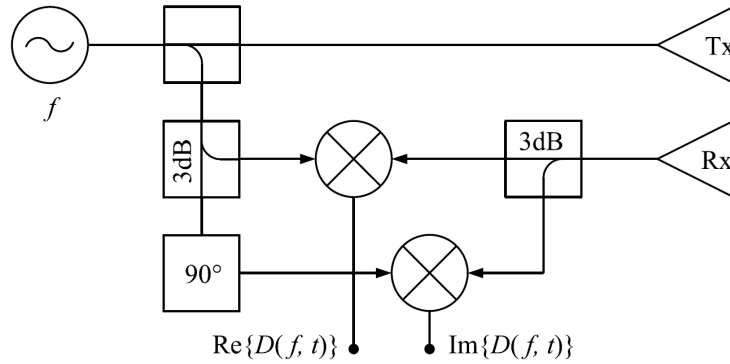

Figure 4.1: Generalized block diagram of a bistatic CW/FMCW radar system with one transmitter and one receiver channels and I/Q demodulator
The operation principle of a typical CW/FMCW radar system is demonstrated in figure 4.1 and will be described below. A radar consists of the following components:
It is obvious that the value of f_I can be positive as well as negative (depending on f_T and f_R), which explains the need for the I/Q demodulator in figure 4.1. Nevertheless, the following calculation will be based on real-valued sampling. Now we assume that the IF signal is digitized with a sampling frequency f_S for the time interval T . This yields a discrete Time-Domain (TD) signal with
Unfortunately, this statement doesn't take into account the direction of the target motion: positive as well as negative velocities of the same magnitude appear at an identical position in the IF signal spectrum. To resolve this ambiguity, the I/Q demodulator of the radar sensor (see figure 4.1) can be used. Positive and negative Doppler frequencies can easily be separated by using complex instead of real-valued IF signals. The mathematical background of this operation can be extracted from Fourier Transforms theory.